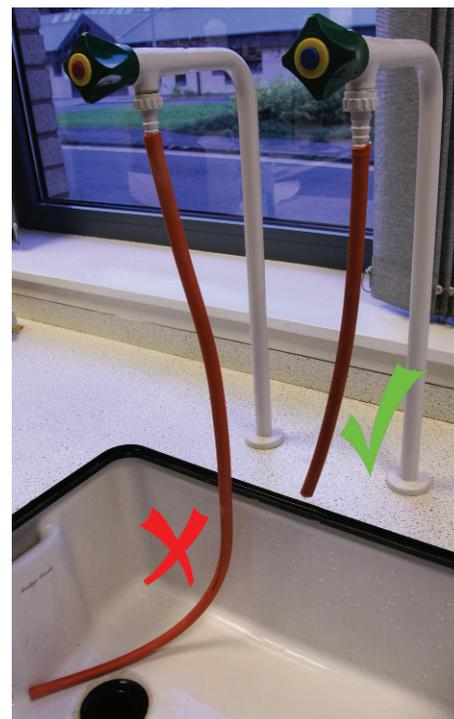
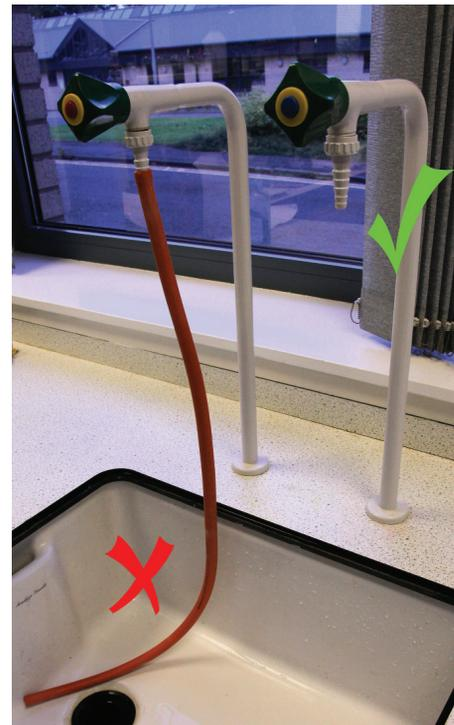

Figure 1 - If in use, the hose outlet should be above the sink overflow level.
Figure 2 - Only attach hoses when required and remove them at the end of the activity.
- Make sure that any hose outlet is **above** the level of the overflow in the sink (Figure 1). Only attach hoses to the taps when specifically required and remove them at the end of the activity (Figure 2).